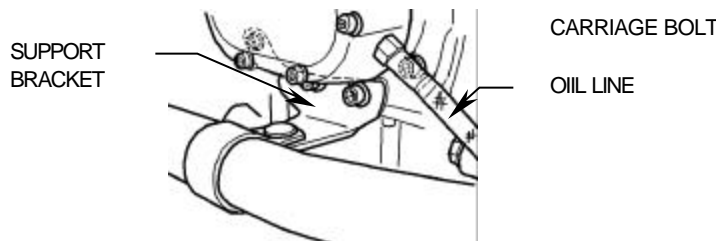

FIGURE 1
5. Place your motorcycle on the sidestand. Remove the front headpipe support bracket by removing the 2 5/16" allen bolts, see Figure 1. Locate the supplied Cobra bracket, similar in shape to the stock one, and mount it in place of the removed bracket using the stock bolts, see Figure 1.